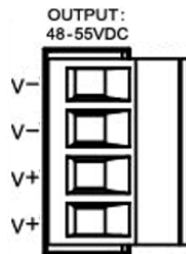

Figure 2.6 - Wiring the Fault Alarm Contact
1. Insert the positive and negative wires into the PWR1 (+V1, -V1) and PWR2 (+V2, -V2) contacts on the terminal block connector as shown below in *Figure 2.6*.